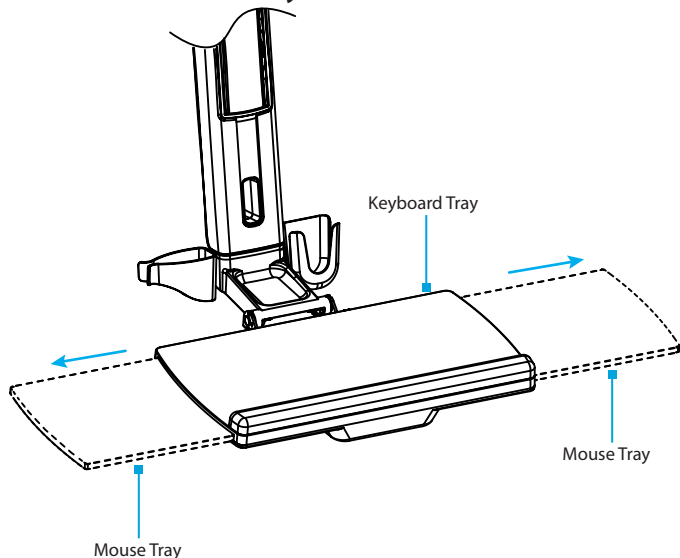

Figure 20
1. **Pull** to extend the **Mouse Tray** to the **Left** or **Right** of the **Keyboard Tray**. (Figure 20)